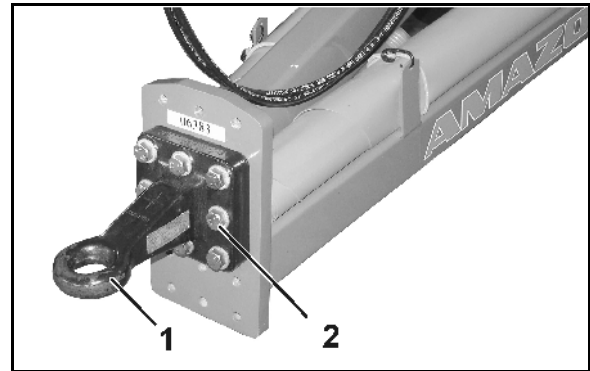

Fig. 48
With the machine removed, the height of the towing eye (Fig. 48/1) can be adjusted to the tractor.
- o Release the screws (Fig. 48/2) and screw on the towing eye at the required height.